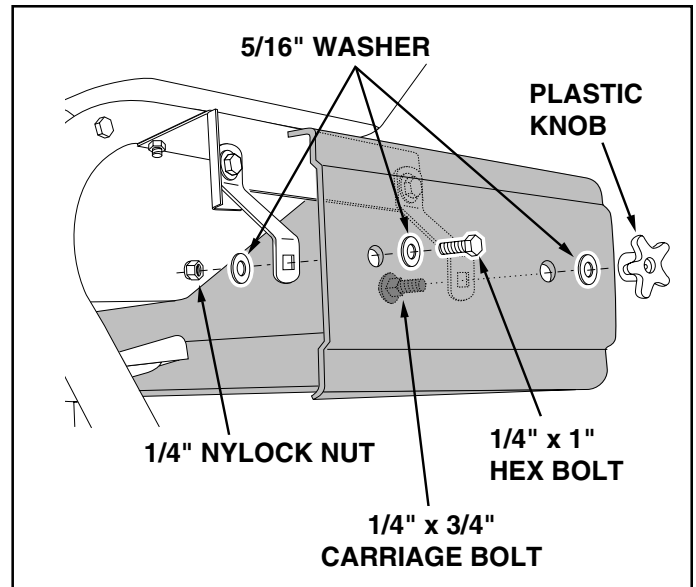

FIGURE 15
26. Assemble the spreader shield to the front swivel brackets using two 1/4" x 3/4" carriage bolts, 5/16" washers and the two 1/4" plastic knobs. See figure 15.
27. Assemble the spreader shield to the rear swivel brackets using two 1/4" x 1" hex bolts, four 5/16" washers and two 1/4" Nylock nuts. **Tighten** the nuts so that the swivel bracket can still pivot freely. See figure 15.